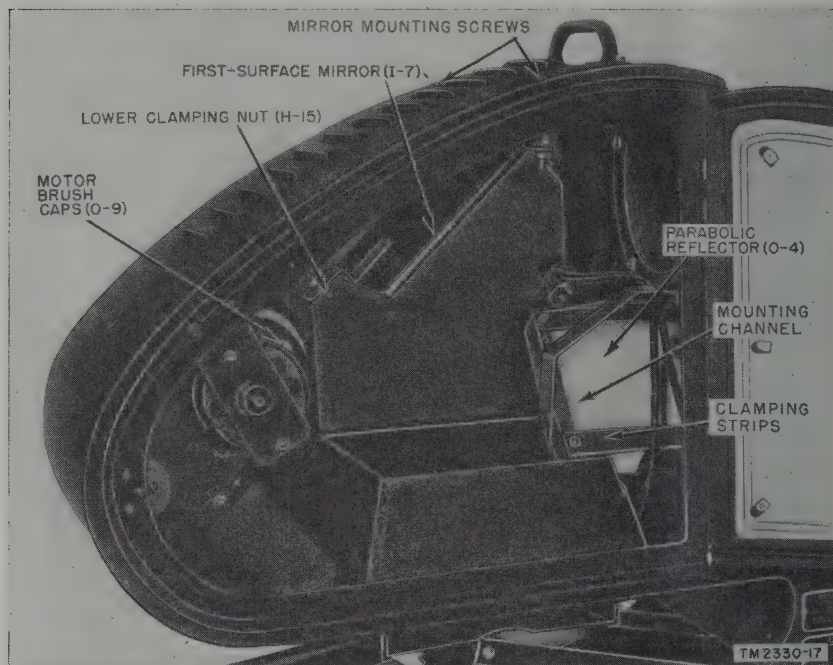

Figure 18. Interior of projector.
34. Cleaning First-Surface Mirror (fig. 18)
52. Replacing Parabolic Reflector (fig. 18)
Turn the swivel actuating knob (fig. 3) until the reflector is approximately in the position shown in figure 18. Remove the nuts on one end of each reflector clamping strip. Do not remove the
53. Replacing First-Surface Mirror (fig. 18)
58. Replacing Motor Brushes (fig. 18)